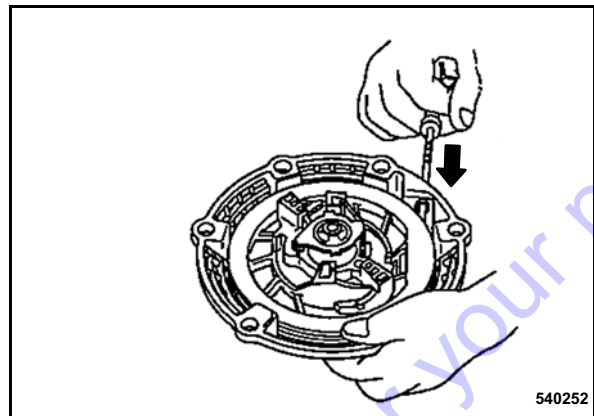

Fig. 70
- Remove the coil fixture and guide the starter handle slowly back to initial position (Fig. 70).